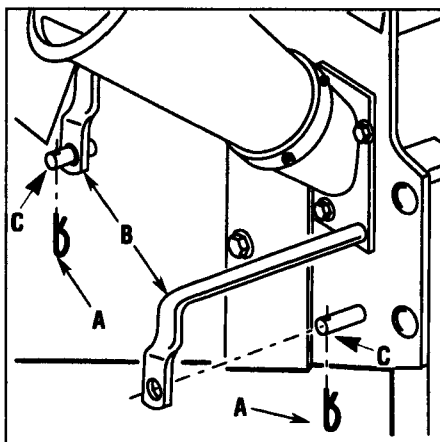

Figure 4-5: Remove both hair pin cotters (A) and slide out two discharge screen rods (B).
3. Remove two hair pin cotters (A, Figure 4-5) from two small studs (C) securing ends of the two discharge screen rods (B).
4. Pull out the two discharge screen rods (B). Support the screen or bar grate so that it doesn't fall on you.
5. Hold the discharge screen or bar grate in position and slide the two screen rods (B, Figure 4-5) all the way through the screen tubes and out the other side of unit. Insert the rear rod first, followed by the front rod. NOTE: The holes in the ends of the screen rods (B, Figure 4-5) must go over the two stud pins (C) on the machine wall.
6. Replace the two hair pin cotters (A, Figure 4-5) through the stud pins (C). The discharge screen or bar grate is now securely installed. If the hair pin cotters become lost, call for replacements immediately. **DO NOT OPERATE UNIT WITHOUT ORIGINAL EQUIPMENT PINS INSTALLED PROPERLY.**